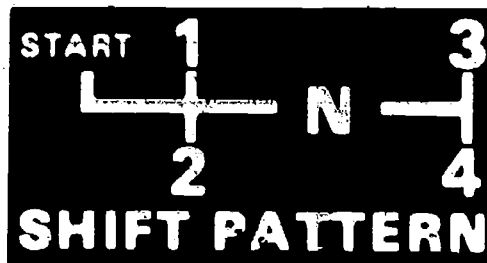

Fig 4-11. Transmission shift pattern.
- (g) Transmission gear shift lever. This lever is used to select the gear range desired for operating the tractor. Gear ranges apply to both forward and reverse as direction of travel is controlled by the power shuttle. The tractor must be stopped and the foot clutch-brake pedal depressed before shifting into any gear range (fig 4-11). The gear shift lever must be shifted to start the tractor. A neutral start switch, which is located in the transmission, prevents the engine from starting unless the transmission gear shift lever is in the START position.